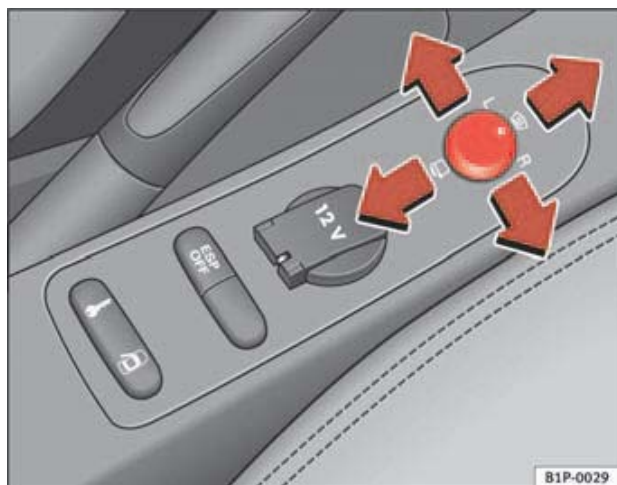

Fig. 86 Exterior mirror control
1. Turn knob ⇒ **fig. 86** to position **L (left exterior mirror)**.
- Turn the knob forwards to the central position ⇒ **fig. 86** **1** so that the heated rear view mirrors warm up and the heated windscreen* in the wiper blade rest area is activated ⇒ page 120.
- Turn the control ⇒ **fig. 86** to position  to fold in the exterior mirrors. You should always fold in the exterior mirrors if you are driving through an automatic car wash. This will help prevent damage.